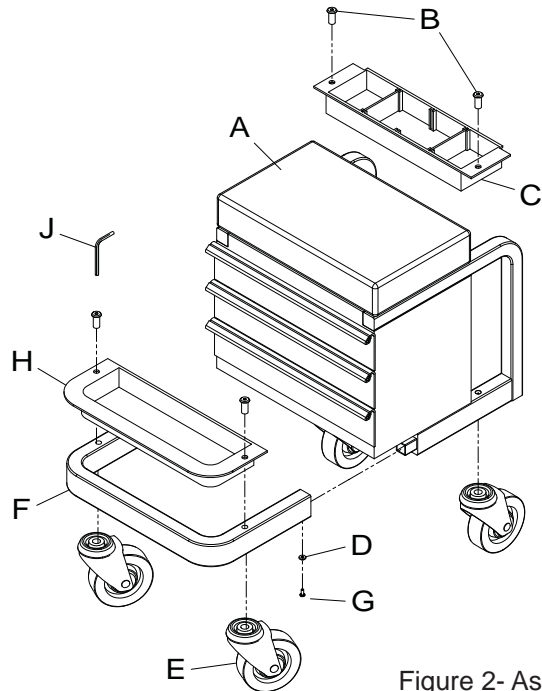

Figure 2- Assembly
Before beginning assembly of product, make sure all parts are present. Compare parts with package contents list and Figure 2 illustration. If any part is missing or damaged, do not attempt to assemble, install or operate the product.
### ASSEMBLY INSTRUCTIONS (ref. Figure 2)
1. Join frame sections by inserting front frame section (F) into channel sections of tool box subassembly (A). Line up screw holes and thread screws (G) fitted with washers (D) into corresponding holes in channel sections. Do not tighten screws yet.
2. Assemble a caster (E) and a tool tray (C or H) simultaneously. Position a caster stud into lower frame hole as seen in Figure 2. Place tool tray into position by aligning the lower frame thru-hole with corresponding hole in tool tray. Insert caster fastener into the swivel caster stud.